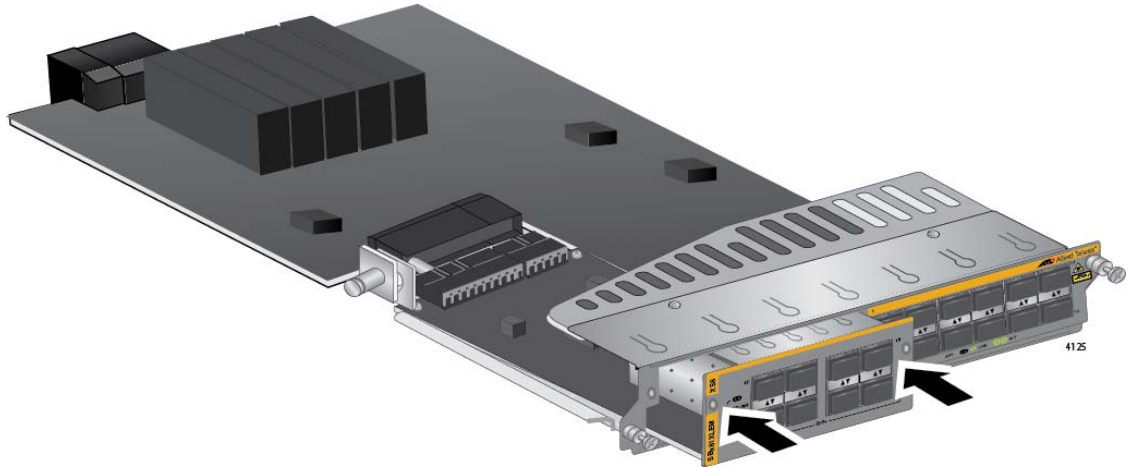

Figure 84. Seating the Expansion Module on the Connector in the AT-SBx81XLEM Line Card
- When the expansion module makes contact with the connector inside the line card, gently press on both sides of the faceplate to seat the module on the connector. Refer to Figure 84 on page 149. The module is fully installed when its faceplate is flush against the faceplate of the AT-SBx81XLEM Line Card.